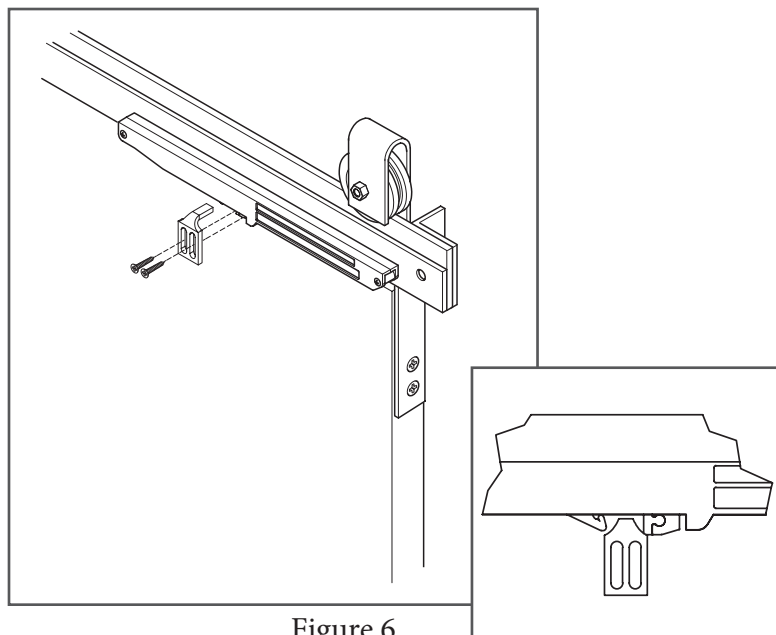

Figure 6
7. Align the stop tab on the top edge of the door to interact with the soft close mechanism (Figure 6).
8. Install the tab on the door using the two Phillips head screws (provided) (Figure 6).